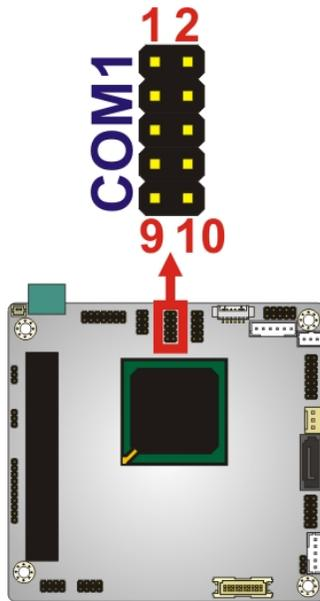

Figure 3-16: Serial Port Connector Location (COM1)
- CN Location:** See **Figure 3-16**